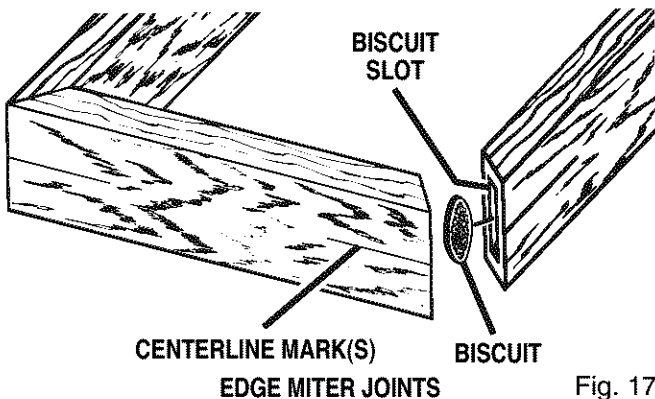

Fig. 17
- Place the pieces of wood to be joined on a level workbench as shown in Figure 17.
- Finally, disassemble workpieces and place a bead of glue in each slot. Also, spread a bead of glue over the entire surface of the joint. Reinsert the biscuits and assemble workpieces. See Figure 17.